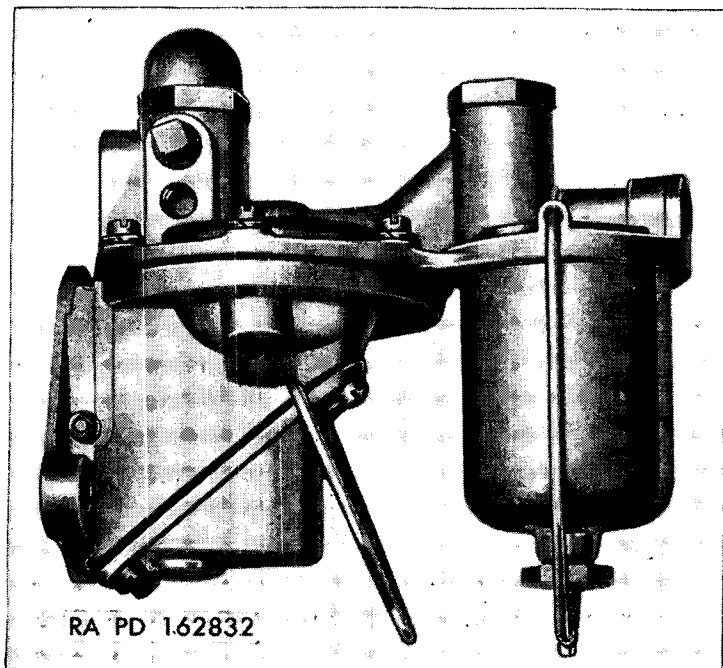

Figure 6. Fuel pumps, series B, D, and O.
a. Identification. Series B, D, and O fuel pumps (fig. 6) are of similar construction. Series B and O use small diaphragms of $3\frac{1}{4}$ -inch diameter, while series D uses a 4-inch diameter diaphragm.
- (1) Mark edges of top cover and body with a file. Mark at heat shield stud if used. The parts may then be assembled in the same relative positions and heat shield stud properly located.
- (2) Remove cover screws and lock washers. Also remove heat shield stud, if used. Separate cover from body by jarring cover loose with light plastic hammer.